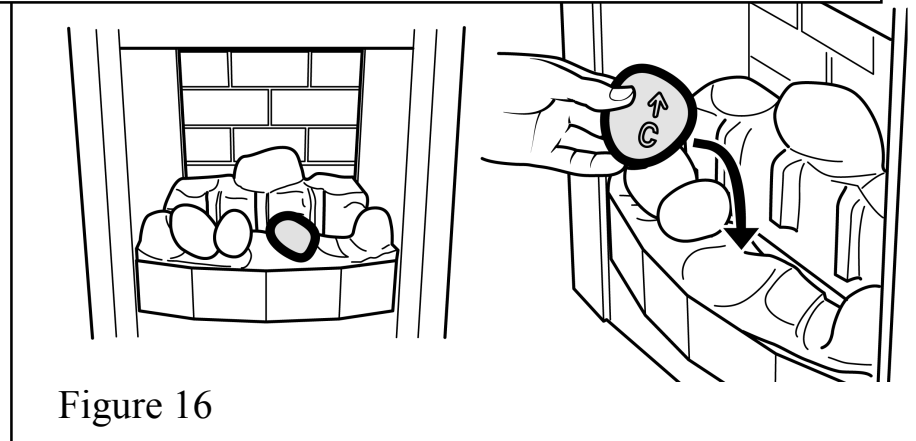

Figure 16
5. Hold pebble 'C' upright with the arrow pointing to the top. Place pebble "C" on top of the front base pebble. It should lie against the moulded pebble to its left. (See figure 16).